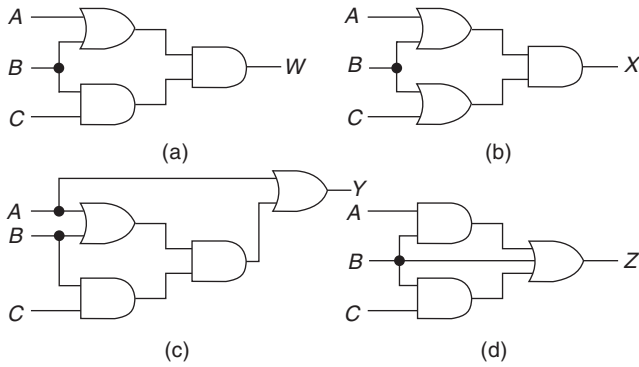

Fig. 5.17
5.41 Write the Boolean equation for the circuits given in Fig. 5.17. Simplify the equations and draw simplified logic circuits.